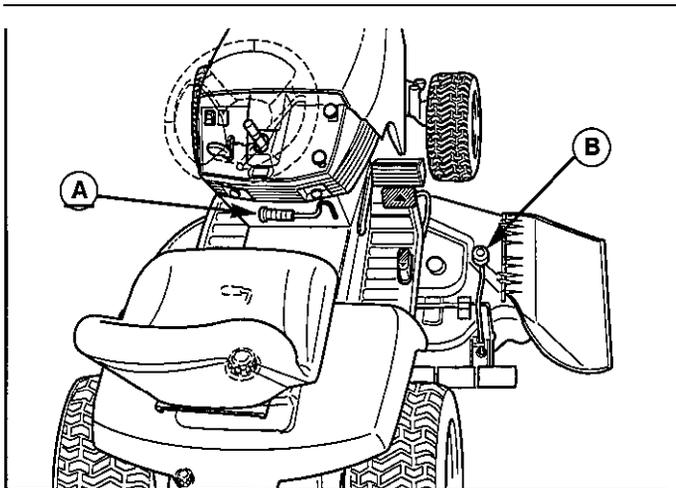

Figure 6. Raising & Lowering Mower
2. Place mower in the lowest cutting position using the mower height adjuster (B, Figure 6).
3. Place the mower lift lever (A, Figure 6) in the lowest position.